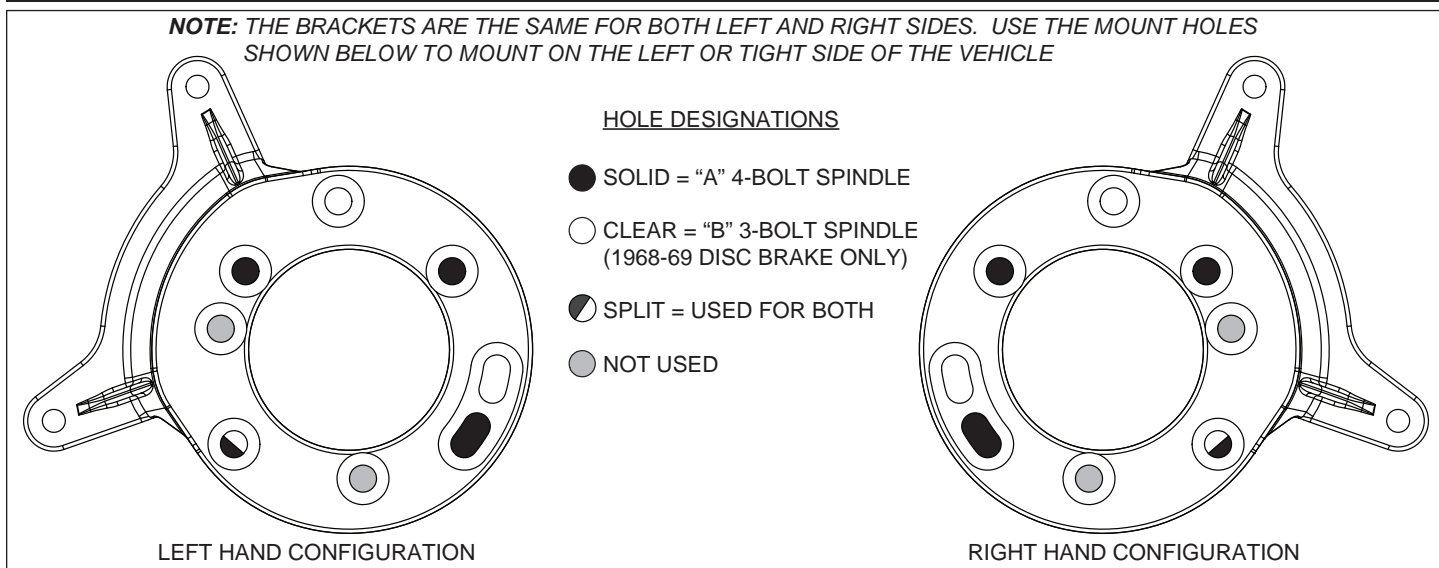
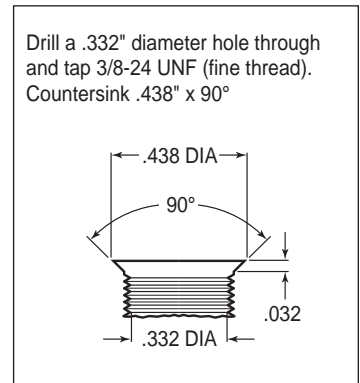
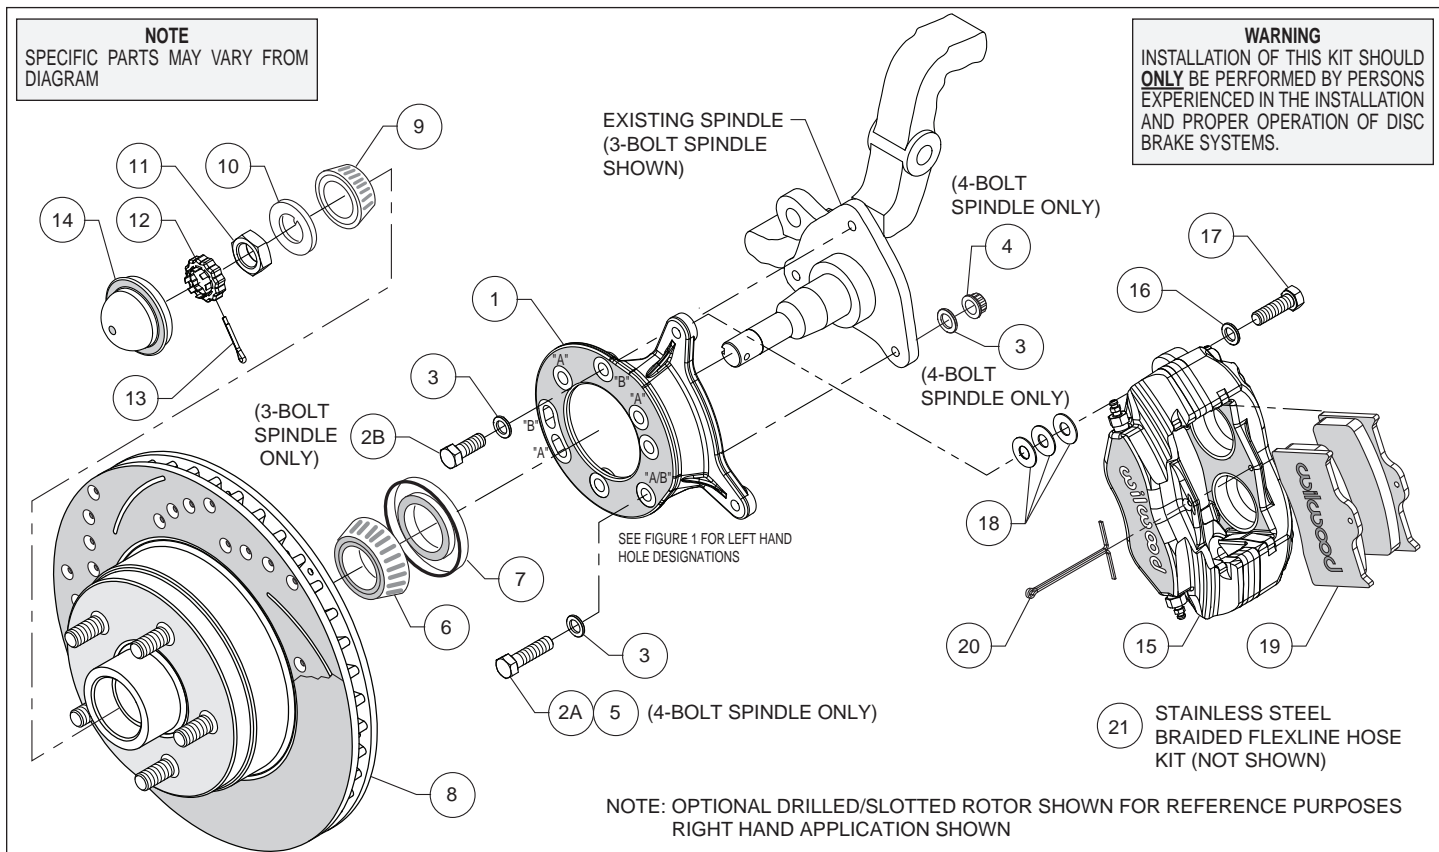

Figure 1. Wilwood Caliper Mounting Bracket
Figure 2. Drill and Tap Detail
Figure 4. Typical Installation Configuration
This kit has been designed for use with both three and four bolt spindle configurations. The only difference is in how the Wilwood caliper mounting bracket is installed. The same bracket is used for both configurations; only the 1968-69 disc brake spindle utilizes three mounting holes while all other spindles use the four mounting holes (see Figure 1). For your convenience we have supplied bolt kits for both applications (see parts list and Figure 4 as necessary). Use the bolt kit that is applicable to your vehicle and disregard the other one.
NOTE: This modification should be performed by a qualified machinist and completed before assembly of the Wilwood disc brake kit begins. Using the caliper mounting bracket as a template (refer to Figure 1 as necessary), locate and verify the three original holes on the spindle that need to be modified. Drill a .332" diameter hole through all three holes, then tap 3/8-24 UNF (fine thread). Countersink the holes to .438" diameter x 90°, as shown in Figure 2.
Assembly Instructions (numbers in parenthesis refer to the parts list, and Figure 4).
•**NOTE:** This kit uses the same mounting bracket (1) for both the three and four bolt brake spindles. The 4-bolt version, Photo 1, uses four mounting bolts (designated "A"), while the 3-bolt version, Photo 2, uses three (designated "B"). Refer to Figures 1 and 4 for the basic installation position of the bracket and the "A" and "B" reference designations (not physically marked on the brackets).
For 4-Bolt Spindle: Align bracket, using the four "A" holes, to the face of the spindle and attach using bolts (2A and 5), washers (3), and lock nuts (4), as shown in Figure 4 and Photo 1. Torque lock nuts to 30 ft-lb.
For 3-Bolt Spindle (1968-69 Disc Brake): Align bracket, using the three "B" holes, to the face of the spindle and attach using bolts (2B) and washers (3), as shown in Figure 4 and Photo 2. Finger tighten. Remove bolts one at a time, apply red *Loctite*® 271 to threads, and torque to 40 ft-lb.
•Pack the large inner bearing cone (6) with high temperature disc brake bearing grease (available from your local auto parts store) and install into the backside of the hub (8), Photo 3.
•Install the grease seal (7) by pressing into the backside of the hub (8), flush with the end of the hub.
•Pack the small outer bearing cone (9) with high temperature disc brake bearing grease and install into the front side of the hub (8). Slide the hub/rotor onto the spindle. Secure using spindle washer (10) and spindle nut (11). Adjust bearings per OEM specifications. Install spindle nut retainer (12) and a new cotter pin (13), Photo 4.
•Press the dust cap (14) into hub (8), Photo 5.
•Mount the caliper (15) onto the caliper mounting bracket (1) using bolts (17) and washers (16), as shown in Figure 4. Initially place three .035" thick shims (18) on each bolt between the caliper and the bracket, Photo 6. Temporarily tighten the mounting bolts and view the rotor (8) through the top opening of the caliper. The rotor should be centered in the caliper, Photo 7. If not, adjust by adding or subtracting shims between the bracket and the caliper. Always use the same amount of shims on each of the two mounting bolts. Once the caliper alignment is correct, remove the bolts one at a time, apply red *Loctite*® 271 to bolt threads, and torque to 40 ft-lb.
•Install the disc brake pads (19) into the caliper, with the friction material facing the rotor (8), Photo 8. Secure in place using cotter pin (20), Photo 9.